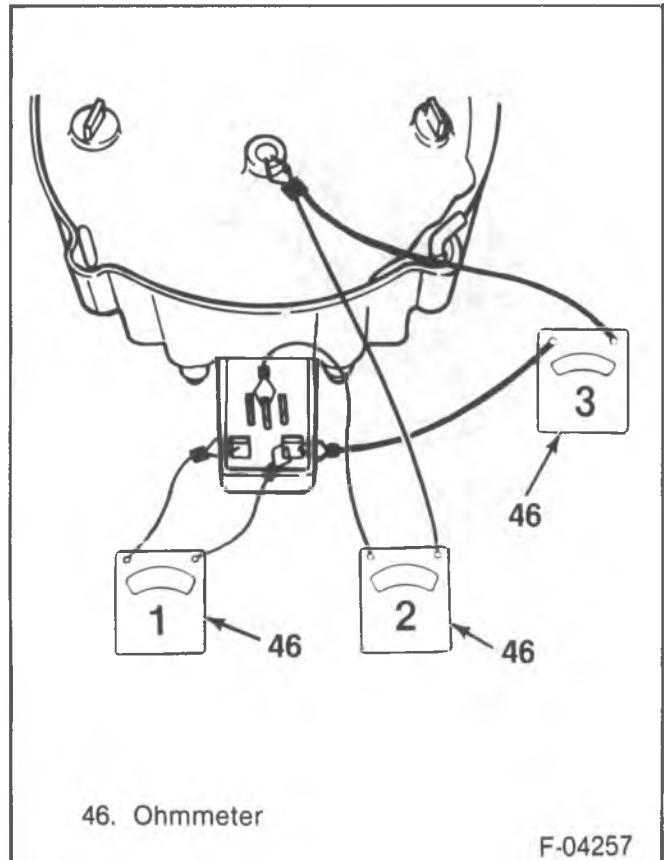

Figure 19—Checking the Ignition Coil
- Connect the ohmmeter as shown in figure 19, step 1. The reading should be zero or nearly zero. If not, replace the coil.